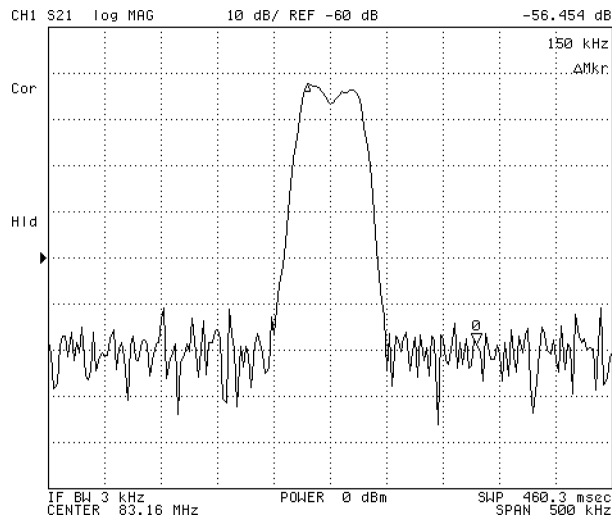

Figure 10-2. Response of a SAW Filter
3. Enter **1** **5** **0** **(k/m)** to move the marker to the point offset from the Δmarker. The Δmarker value shows the relative attenuation at the offset position (see Figure 10-2).